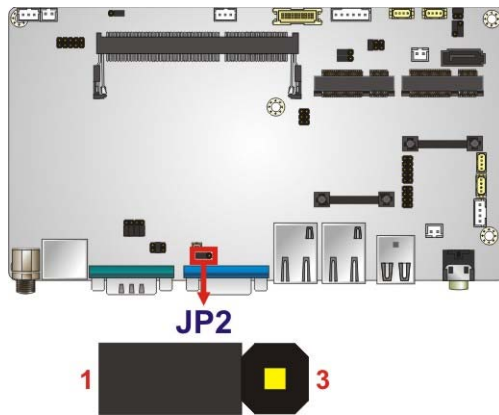

Figure 3-13: Clear CMOS Jumper
- Jumper Location:** See **Figure 3-13**
The location of the clear CMOS jumper is shown in **Figure 3-13** below.